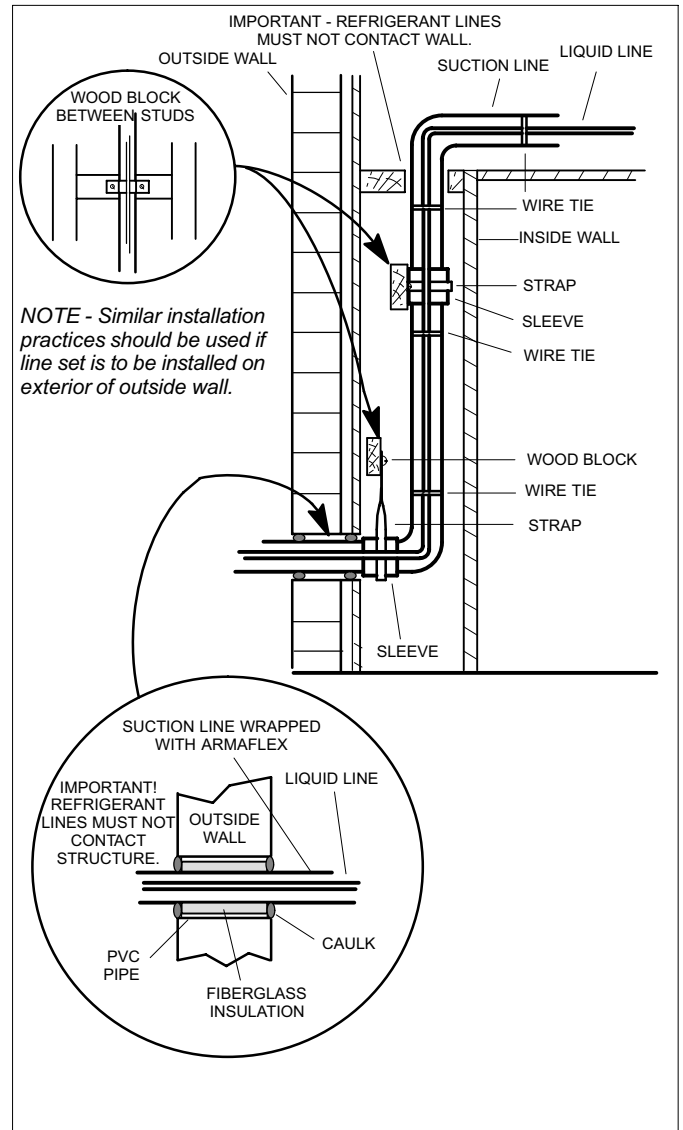

Figure 11. Refrigerant Line Set: Installing Vertical Runs (New Construction Shown)
- Installation of line set on vertical runs is illustrated in figure 11.